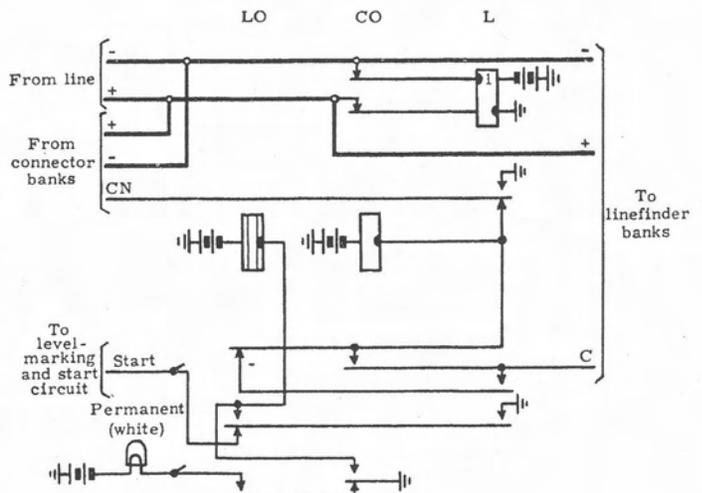
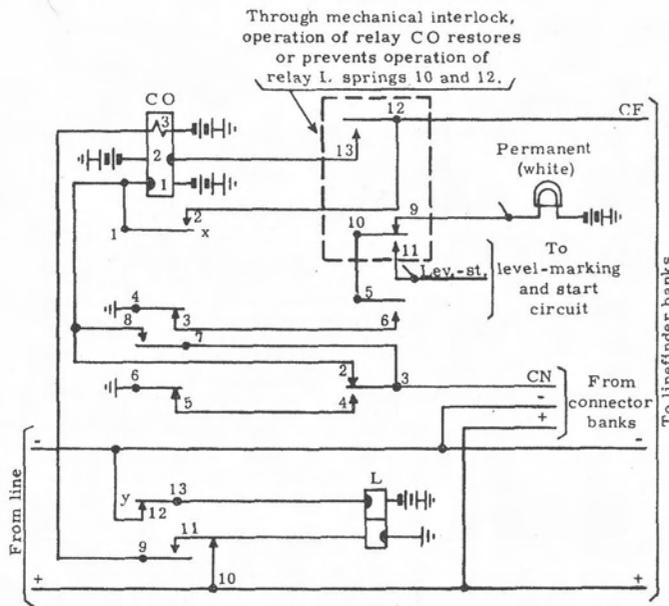

Figure 28. Three-relay lock-out line circuit.
Figure 31. Two-relay mechanical-lockout line circuit. Normal.
6.4 Permanent timing and line lock-out. A "permanent" line is one whose line equipment is operated accidentally (due to a handset improperly placed in its cradle, leakage across the loop, grounded negative line, etc.). The operated line equipment causes a linefinder to connect to the line. As this ties up a linefinder and a first selector needlessly, a line circuit with a "lock-out" feature is sometimes used. If the line does not dial within two to four minutes, the first selector releases the linefinder, and the line equipment "locks out" so as not to seize another finder-selector link. Two common "lock-out" circuits are the three-relay "lock-out" circuit (figure 28) and the two-relay mechanical "lock-out" circuit (figure 31).
6.41 The three-relay lock-out line circuit (figure 28) operates as follows on an outgoing call. When the subscriber lifts his handset, current through his telephone operates the line relay. The line relay grounds connector control lead CN to busy the line to other calls, connects the cut-off relay to the linefinder control lead to mark the calling line's contacts on the linefinder banks, and grounds the level-marking and start lead to start the linefinder. The linefinder, connecting to the line, grounds lead C, operating cut-off relay CO. Relay CO locks, removes the line relay from across the line, and operates lock-out relay LO.